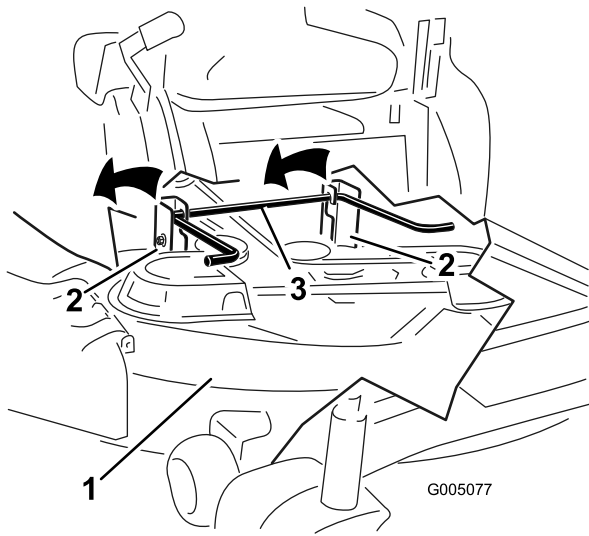
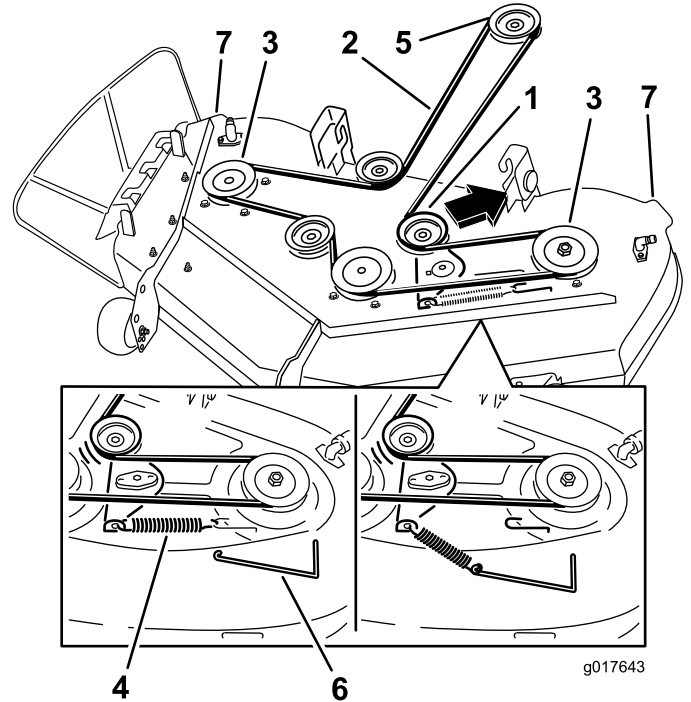

Figure 60
Figure 61
5. Using the mower deck handles, lift the mower deck and hanger brackets clear of the rear lift rod and lower the mower carefully to the ground (Figure 60 and Figure 61).
remove tension on the idler pulley and roll the belt off of the pulleys (Figure 61).
- 5. Route the new belt around the engine pulley and mower pulleys (Figure 61).
- 6. Using a spring removal tool, (Toro part no. 92-5771), install the idler spring over the deck hook and placing tension on the idler pulley and mower belt (Figure 61).
5. Lift the rear of the mower deck and guide the hanger brackets over the rear lift rod (Figure 60).